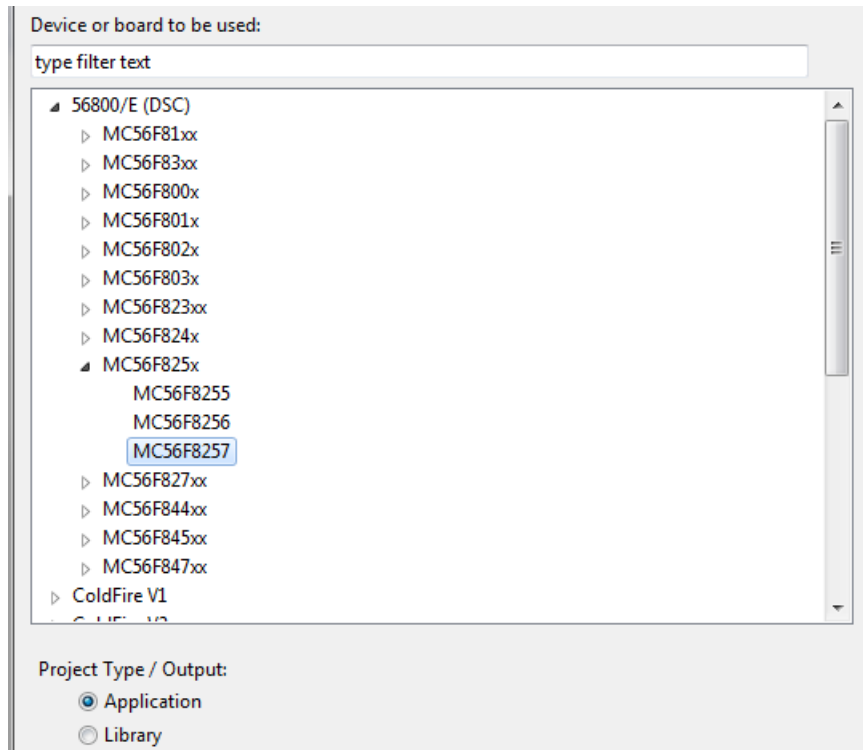

Figure 1-2. Processor selection
5. Expand the tree by clicking the 56800/E (DSC) and MC56F8257. Select the Application option and click Next. See Figure 1-2.